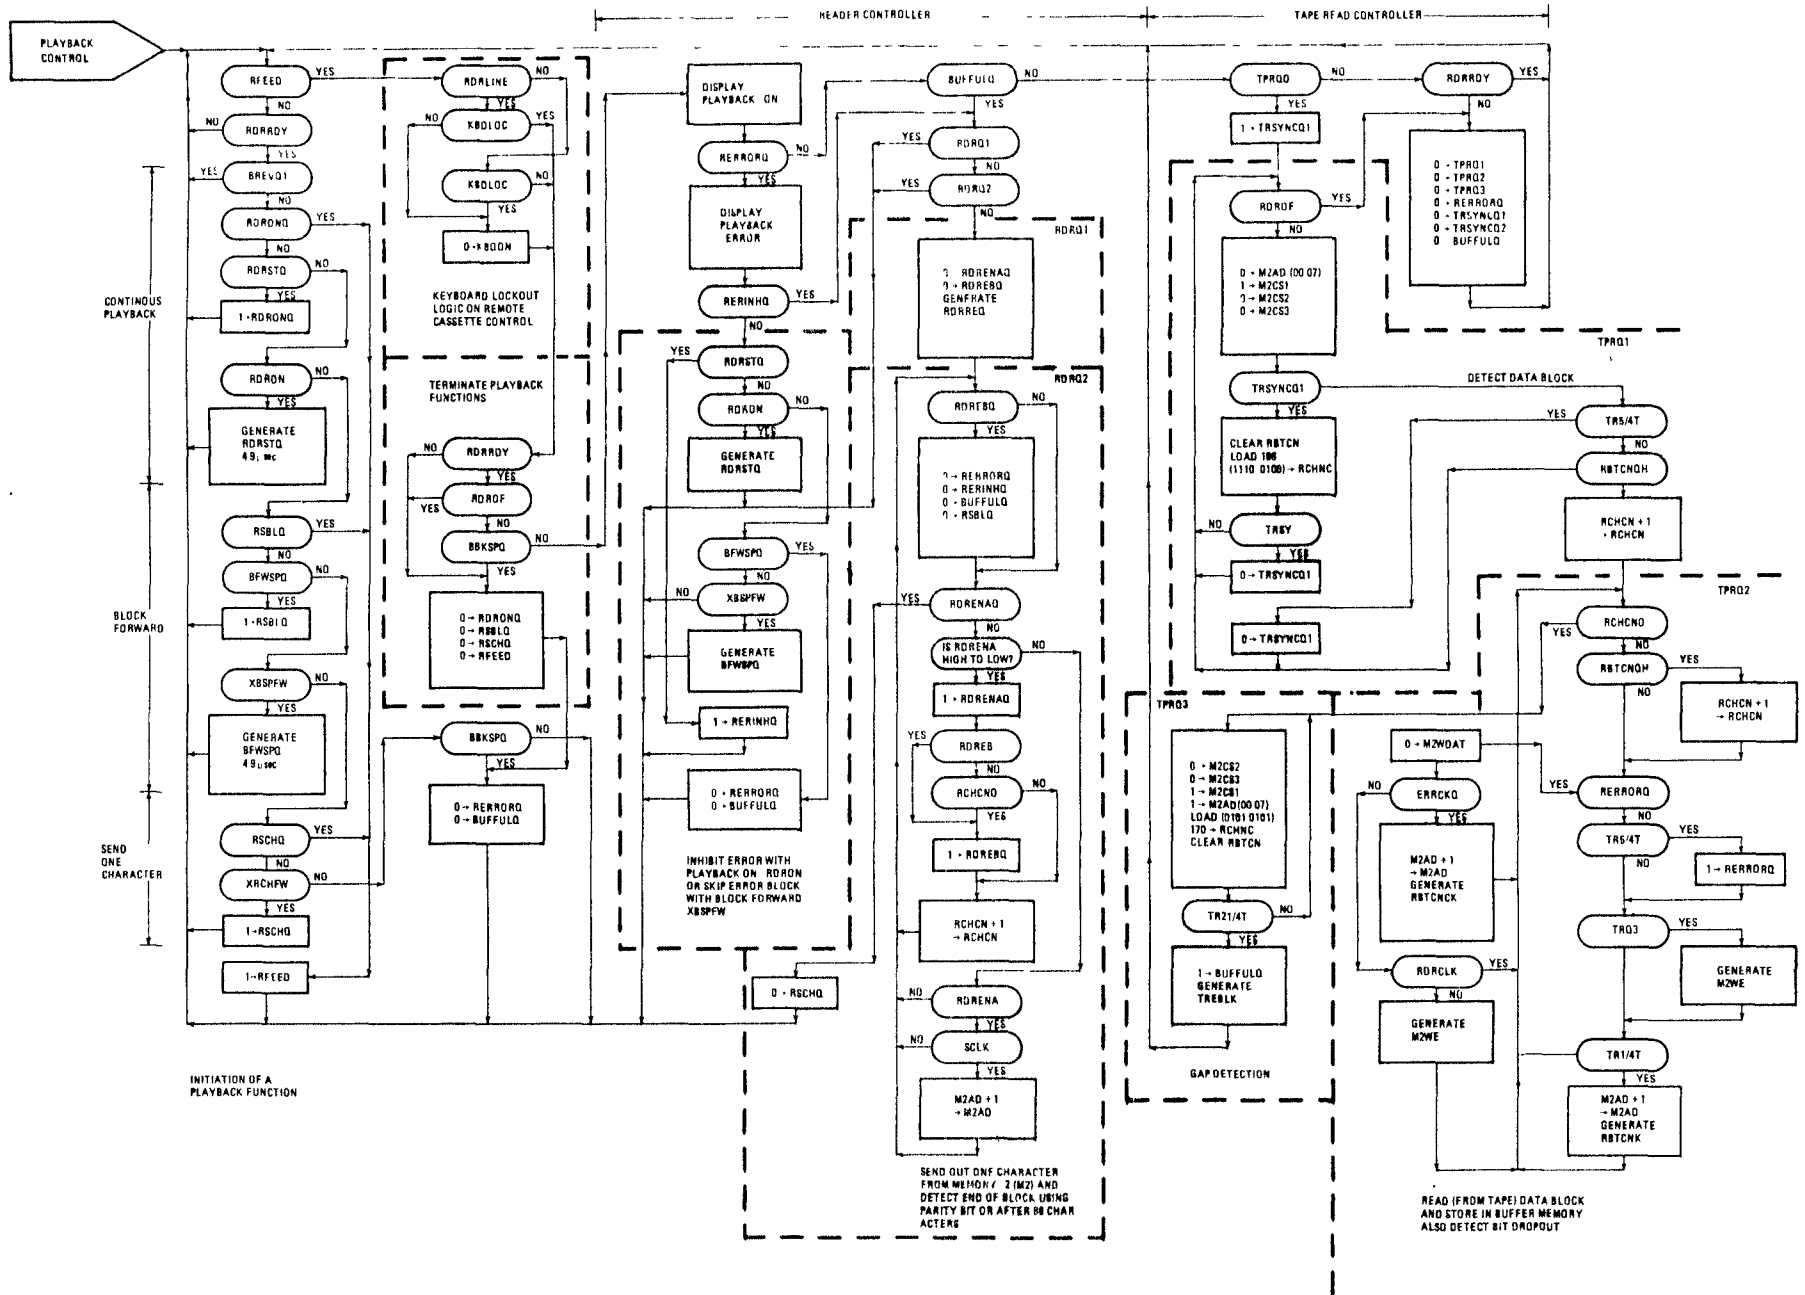
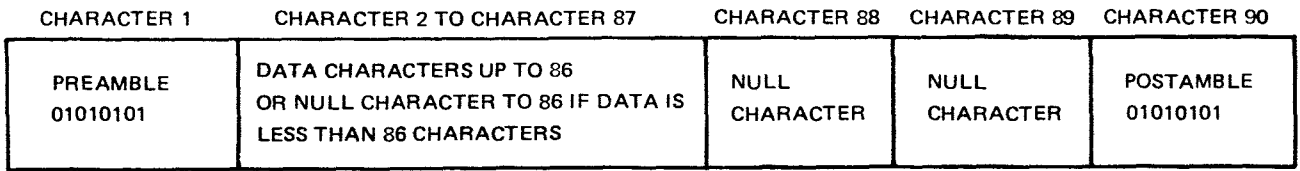
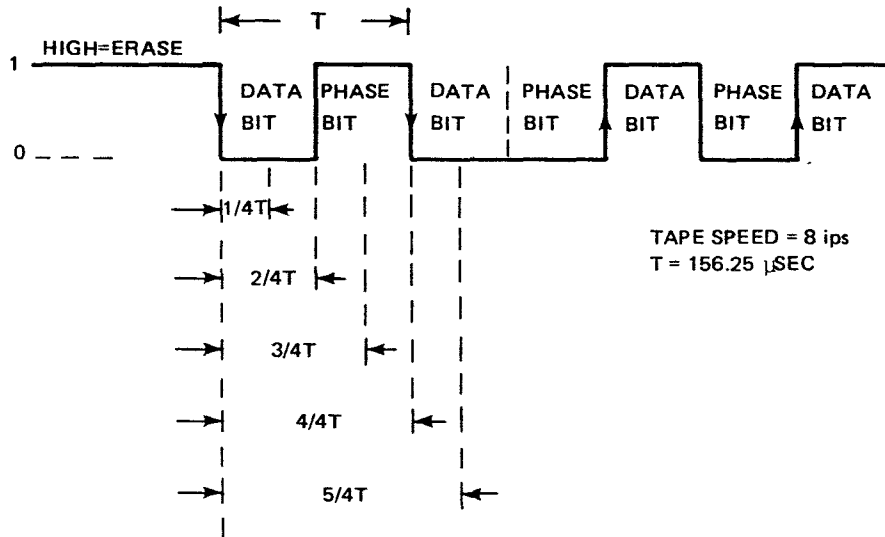

FIGURE 3-8.8. PLAYBACK CONTROL FLOW CHART
FIGURE 3-8.10. BLOCK OF DATA ON TAPE
FIGURE 3-8.11. PHASE-ENCODED (PE) DATA TIMING DIAGRAM
3-8.2.1 Reader Controller. The reader controller controls the operative mode of the playback; i.e., continuous run, one block at a time, one character at a time, or one block reverse. Only one of these modes may be operative at one time, and no mode change is possible while one of the modes is already active (playback ON lamp is illuminated). Figure 3-8.8 shows the entire playback function in flow diagram form.
3-8.2.2 Tape Read Controller. The tape read controller does the task of reading a block of data from the magnetic tape and storing in the reader buffer memory (see the flow chart and timing diagram in Figures 3-8.8 and 3-8.9). A block of data is shown in Figure 3-8.10. When the tape read controller detects that the buffer is not full (BUFFULQ=ZERO), it causes the tape transport to start and it searches the tape for the block preamble. Once the controller senses the first flux change of the phase-encoded (PE) data, a timer starts which produces a clock at exactly $1/4T$ (see figure 3-8.11 for PE data timing). If the first bit has remained good for at least $1/4T$ (time), a flipflop is set which inhibits the read circuit from resetting until the whole block is read. After the first preamble bit is sensed as good (true data), the next 7 bits of the preamble then must be detected. After the eighth bit of the preamble is detected, the reader buffer memory is enabled and data is entered into the buffer memory in the following order:
The data on the tape is recorded in a phase-encoded (PE) format. The tape read controller therefore must convert the PE data to digital data for storage in the reader memory. PE data is self-clocking; therefore, no data clock is necessary to read the data from the tape (Figure 3-8.11 shows the PE data timing). On a data transition a timer is started which clocks the data bit into memory at exactly $1/4T$. The tape read circuit is then "locked out" until the phase bit transition passes at $1/2T$. The timer then produces a clock at $3/4T$ which resets the tape read circuit to sense the next data transition. If no new data transition occurs by $5/4T$, a bit dropout is signalled and the error flipflop is set.